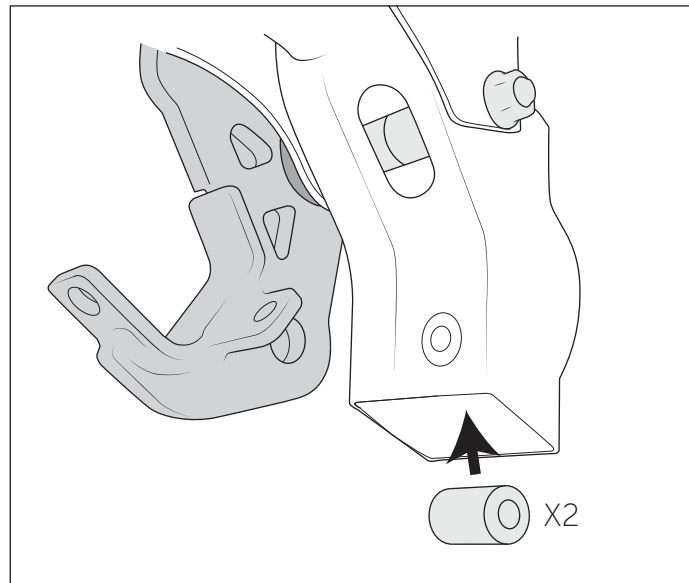

Figure 7: Front Right Side Shown
5. Feed the provided tube spacer crush sleeves (two per side) through the opening in the bottom of the frame compatibility beams one at a time using a telescoping magnet. Feed the tow loop bolt through the frame rail, crush sleeve spacers, and inner frame rail (fig. 7). You can loosely install a flange nut onto the bolt now if you are not installing a winch mount.